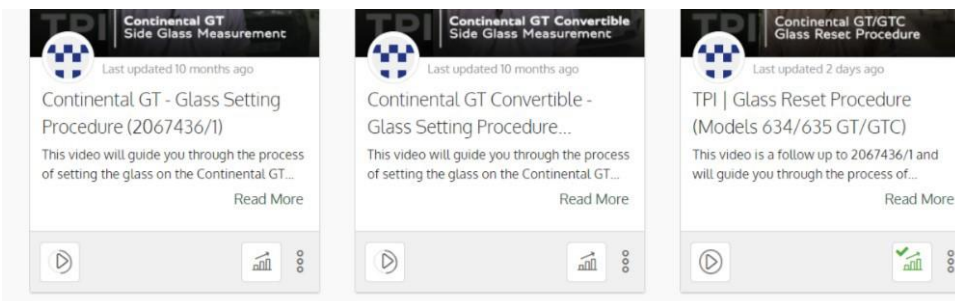

Figure 9
- The operative must review the (x3) videos which are available on the Digital Learning HUB (see example shown in Figure 9 of all videos which must be reviewed)